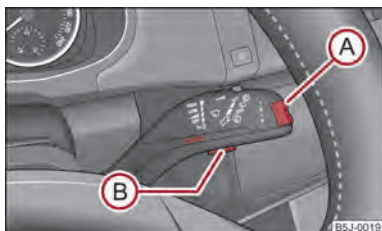

Fig. 6 Multi-functional indicator: Control elements
Switching over the memory takes place with the button (B) ⇒ fig. 6 on the windshield wiper lever.
The rocker switch (A) and the button (B) are located on the windshield wiper lever → fig. 6.
If the outside temperature drops below +4 °C, a snow flake symbol (warning signal for ice on the road) appears in front of the temperature indicator and flashes for 10 seconds, then remains displayed together with the outside temperature. At the same time an audible signal sounds. After pressing the rocker switch (A) on the windshield wiper lever → fig. 6, the function which was shown last is indicated.
The driving time which has elapsed since the memory was last erased, appears in the display → page 14. If you wish to calculate the driving time from a particular time of day you must first erase the memory at this moment in time by pressing the button (B) → fig. 6.
If you wish to determine the average fuel consumption over a certain period of time, you must erase the memory at the start of the new measurement using the button **(B)** on the windshield wiper lever ⇒ fig. 6. A zero appears in the display for the first approx. 300 m you drive after erasing the memory.
The distance driven since the memory was last erased appears in the display ⇒ page 14. If you wish to calculate the distance driven as of a particular time, you must erase the memory at this moment in time by pressing the button **(B)** on the windshield wiper lever ⇒ fig. 6.
The average speed since the memory was last erased is shown in the display in km/hour ⇒ page 14. If you wish to determine the average speed over a certain period of time, you must erase the memory at the start of the new measurement by pressing the button **(B)** on the windshield wiper lever ⇒ fig. 6.
- With button **(A)** ⇒ fig. 6, choose the menu point **Warning against excessive speeds**.